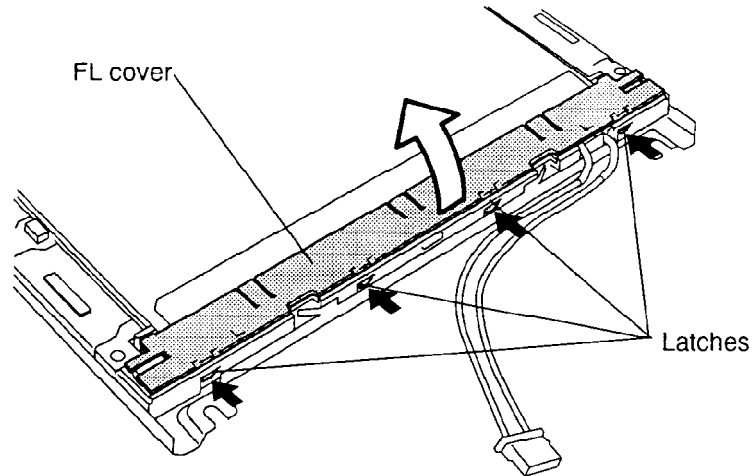

Figure 4-29 Removing the FL Cover
5. Push the **four latches** to remove the **FL cover** and remove it (Figure 4-29).